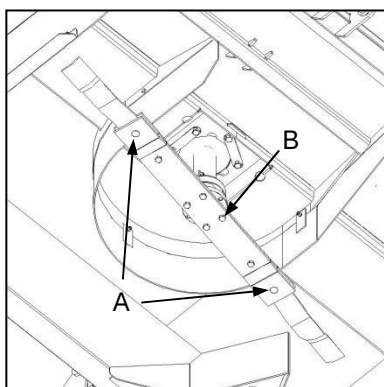
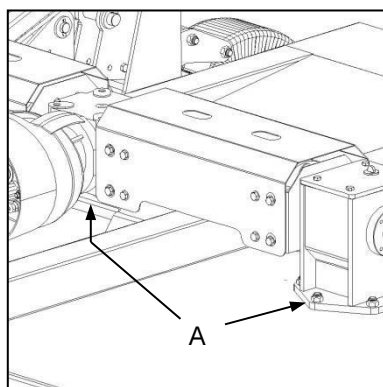
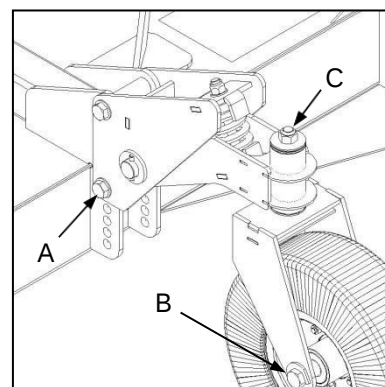

Fig. 1
Fig. 2
Fig. 3
- ✓ Check all fasteners for tightness. This includes special attention safety-critical fasteners such as blade bolts and nuts (Fig. 1-A/B), cutting gear mounting bolts (Fig. 1-C), gearbox mounting bolts (Fig. 2-A) and all wheel assembly fasteners and pivot points (Fig. 3-A/B/C).
- ✓ Verseker dat alle hegstukke vas is, met spesiale aandag aan veiligheidskritieke hegstukke soos lemboute en -moere (Fig. 1-A/B), snyemeganismemonteerboute (Fig. 1-C), ratkasmonterboute (Fig. 2-A) en alle wielmonteringhegstukke en spilpunte (Fig. 3-A/B/C).